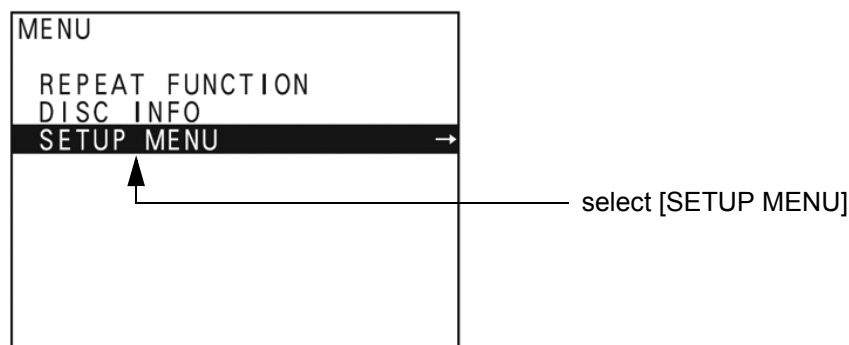

Figure 3-29 "Main Menu" - [SETUP MENU] highlighted
3.) The "Main Menu" appears on the LCD screen of the DVD recorder, see: Figure 3-29 below.